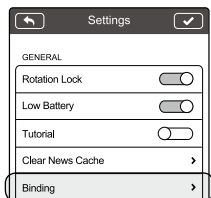

Figure 36
- (1) Power on the camera and Range Extender.
- (2) Approximately 30 seconds later, press the Binding Reset Button on the Range Extender with a pin until the SYSTEM Indicator turns off. The Range Extender will then restart automatically.
- (3) Approximately 30 seconds later, the SYSTEM Indicator will start to blink green, indicating that the Range Extender is ready for binding.
- (4) Enable Wi-Fi on your mobile device then select "Phantom_XXXXXX" (the SSID of your Range Extender) from the Wi-Fi network list.
- (5) Run the DJI VISION App then tap -> Settings -> General -> Binding (Figure 36). Select 'Scan QR Code' to scan the camera QR code on the bottom of aircraft (Figure 37). Get the camera SSID (E.g. FC200_XXXXXX) and the MAC address (Figure 38). You can also skip the scan and enter the camera MAC address directly (Figure 39). The MAC address can be found on the camera label.
- (6) Tap the tick ☒ in the top right corner. The Range Extender should automatically restart. Binding is now complete.